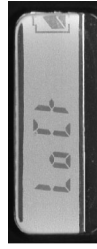

Fig 10: LOCK
- Touch the CH/ON key slightly to select the edited parameter of Lock/Unlock (refer to Fig 10 & 11), then use the SELECT key to specify Lock or Unlock;